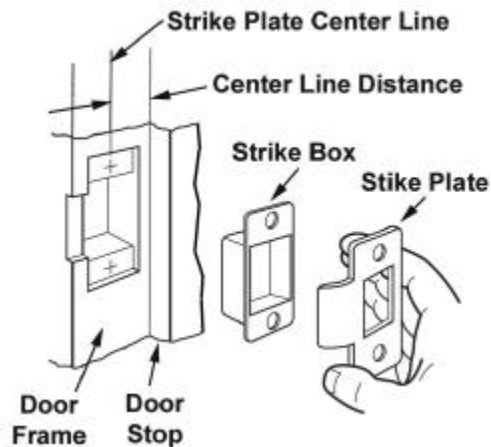

Figure 2-33 – Installing Strike Plate
- 2.18.1 Calculating the location of the Strike Plate Center Line will vary from door to door. It is basically $\frac{1}{2}$ of the door thickness from whatever stops the door when it is closed. Sometimes this is the door frame (jam) itself, sometimes it is a rubber bumper, and sometimes it is weather stripping. Determine what stops your door when it is closed and measure $\frac{1}{2}$ the door's thickness from that point and that is the Strike Plate Center Line location (Figure 2-33).
- 2.18.2 Mortise the doorjamb to accommodate the Strike Box and Plate in alignment with the Strike Plate Center Line (Figure 2-33). The mortise must be deep enough so that the installed Strike Plate is flush with the Door Frame.